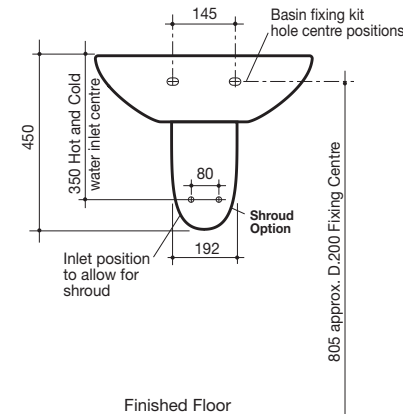

Fig. 1
For timber stud walls, noggings and studs must be positioned at a height to allow for the location of fasteners, as detailed in **Fig. 1**. When installing a shroud, position water inlet connections, as detailed in **Fig. 1**.
- 1- Mark fixing screw hole position on finished wall at the recommended height as detailed in **Fig. 1**.